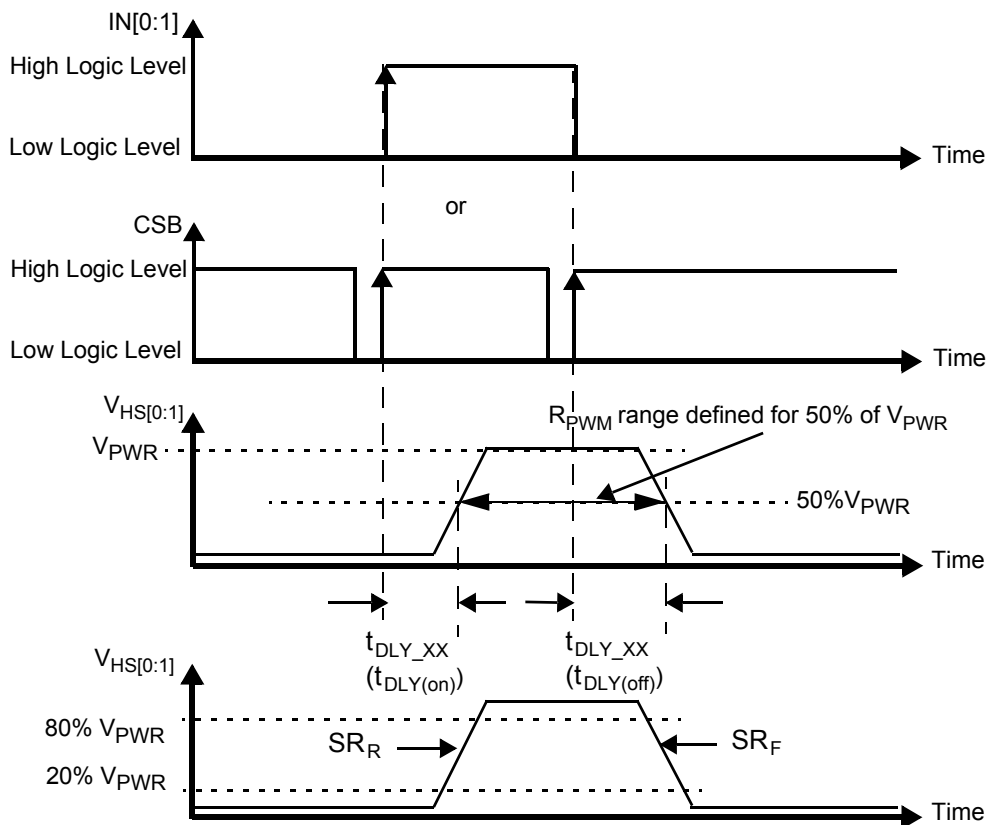
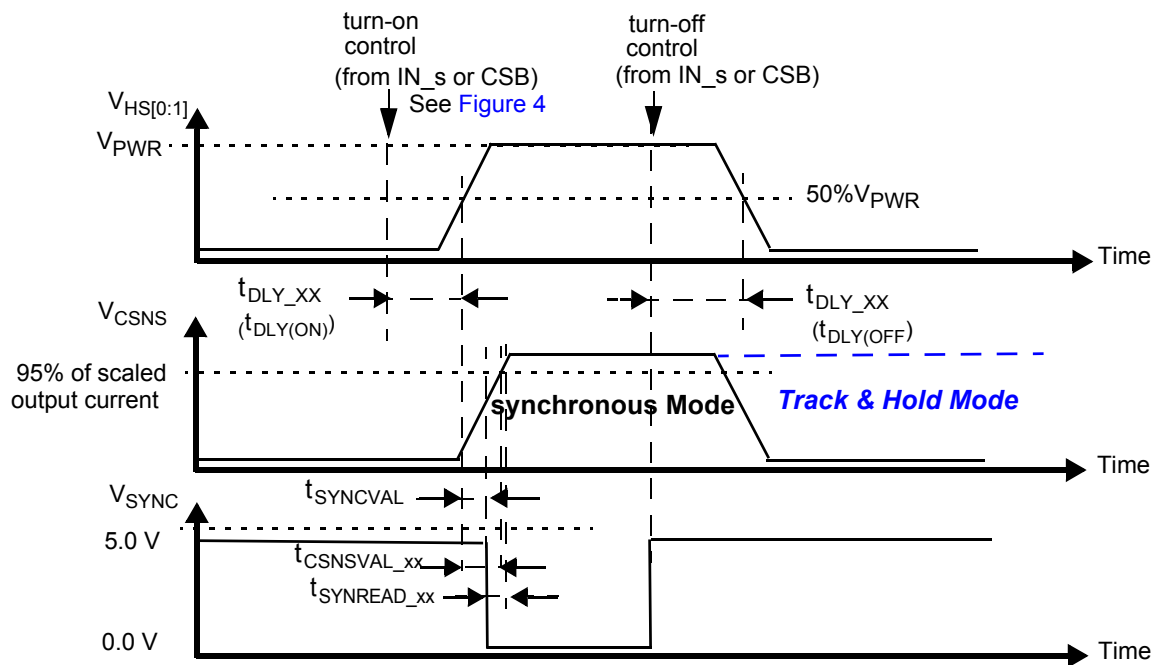

Figure 4. Output Voltage Slew Rate and Delay
Figure 9. Synchronous & Track-and-Hold Current Sensing Modes: Associated Delay & Settling Times
27. Rising and Falling edge slew rates specified for a 20% to 80% voltage variation on a $10.0\ \Omega$ resistive load (see Figure 4).
29. Time required to switch off the channel after detection of overtemperature (OT), overcurrent (OC), SC or UV error (time measured between start of the negative edge on the FSB pin and the falling edge on the output voltage until $V(\text{HS}[0:1]) = 50\%$ of V_{PWR}).
30. Settling time ($= t_{CSNSVAL_XX}$), SYNC output signal delay ($= t_{SYNCVAL_XX}$) and Read-out delay ($= t_{SYNREAD_XX}$) are defined for a stepped load current ($100\text{ mA} < I(\text{LOAD}) < I_{OCLX\ A\ \text{FOR}\ \text{CSNS_RATIO_S} = 1}$, AND $300\text{ mA} < I(\text{LOAD}) < I_{OCLX\ A_0\ \text{FOR}\ \text{CSNS_RATIO_S} = 0}$). (see Figure 9 and Output Current Monitoring \(CSNS\)).
To synchronize current sensing with an external process, the SYNC signal can be connected to a digital input of an external MCU. SYNC is asserted logic low when the current sense signal is accurate and ready to be read. The current sense signal on the CSNS pin has the specified accuracy $t_{SYNCREAD_XX}$ seconds after the falling edge on the SYNC pin (Figure 9) and remains valid until a rising edge is generated. The rising edge that is generated by the SYNC pin at the turn-OFF instant (internal or external) may also be used to implement synchronization with the external MCU. Parameter $t_{SYNCSVAL_XX}$ is defined as the time between the instant at the middle of the output-voltage rising edge ($HS[0:1] = 50\%$ of V_{PWR}), and the instant at which the voltage on the SYNC-pin drops below 0.4 V (V_{SOL}). The SYNC pins of different devices can be connected together to save micro-controller input channels. However, in this configuration, the CSNS function of only one device should be active at a time. Otherwise, the MCU does not determine the origin of the SYNC signal. The SYNC pin is open drain and requires an external pull-up resistor to V_{DD} .